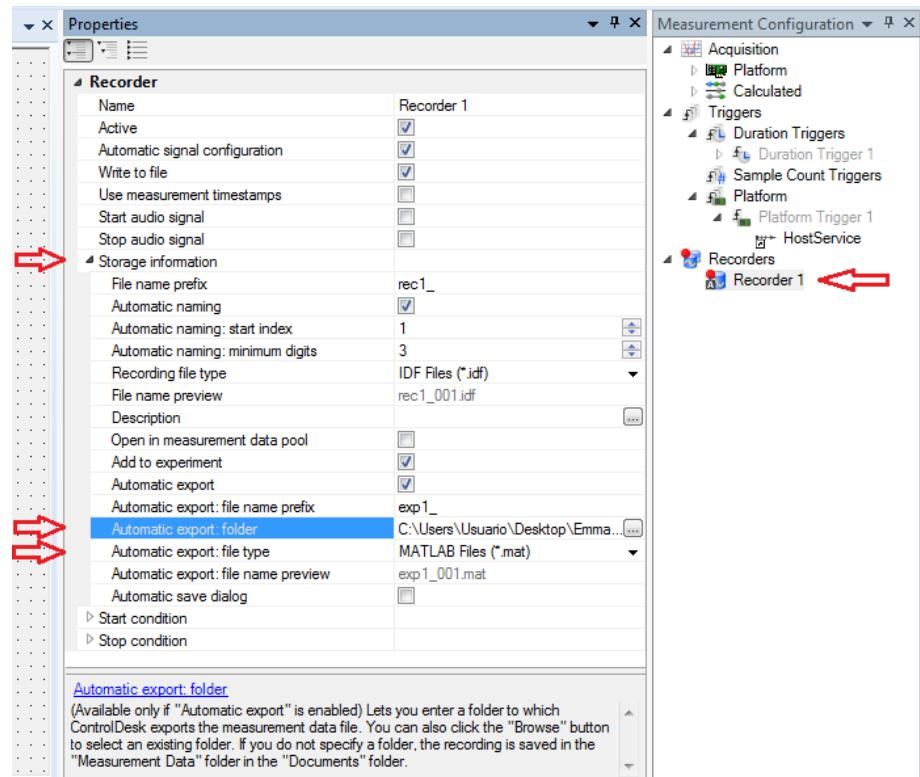

Figure 50: Properties of the recorder
3. Right-click on 'Recorder 1' and select 'Properties' to open the dialog seen in figure 50. Select 'Automatic export' to automatically create a file with the recording of the variable, and select a name for the file, the folder where the file will be generated, and the file type. To be able to work the data in MATLAB select 'MATLAB file (*.mat)'. Also, the name of the recorder can be changed